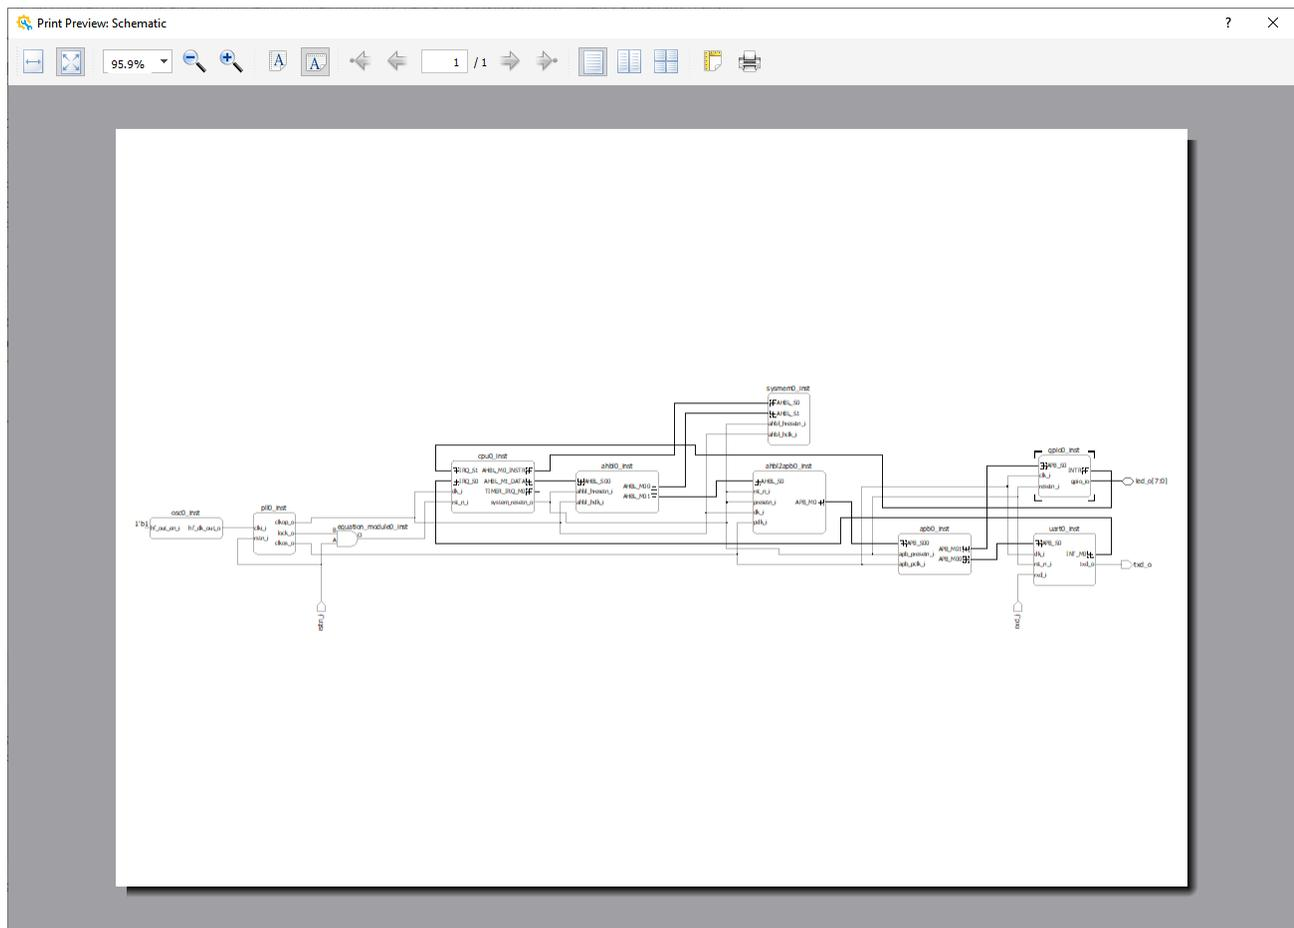

Figure 2.47. Print Preview
- a. Choose **File > Print Preview**. The Print Preview window (Figure 2.47) opens.